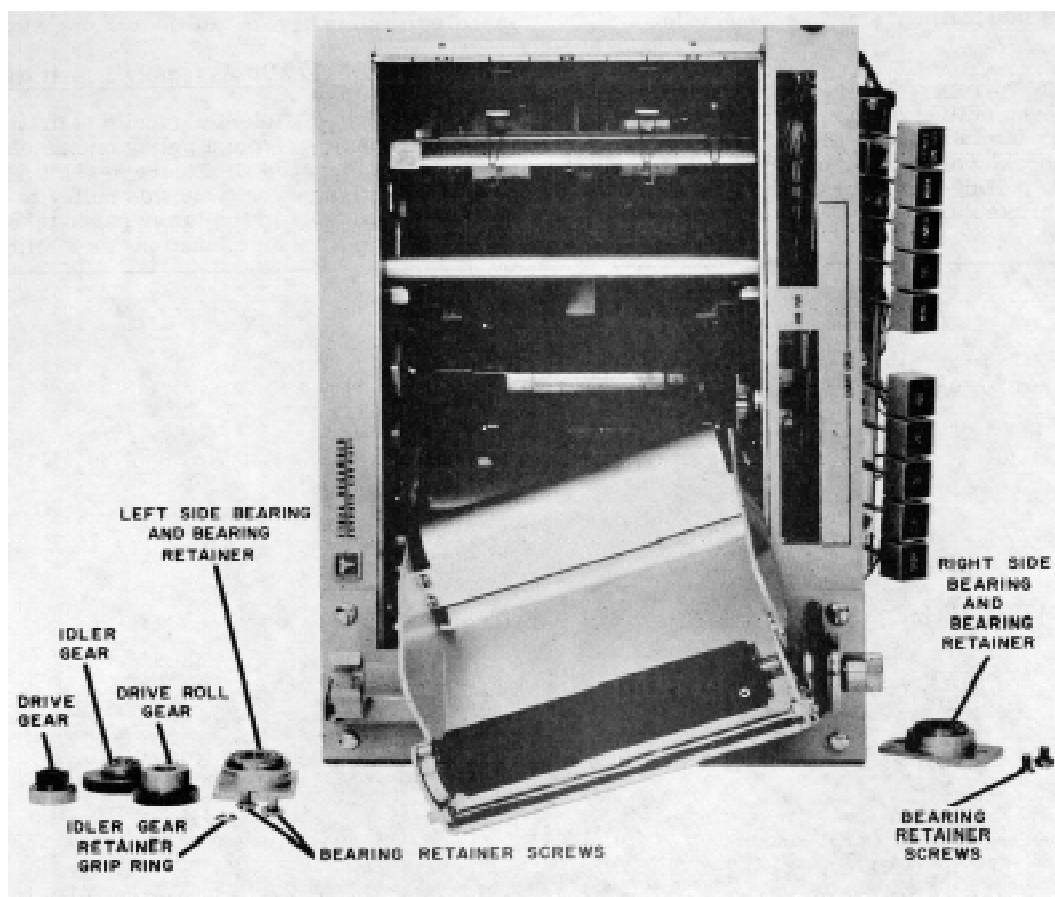

Figure 5-6. Paper Table Removal
d. Unscrew and remove the left side bearing and bearing retainer (see Figure 5-6).
f. Unscrew and remove the right side bearing and bearing retainer (see Figure 5-6).
g. Remove the paper table from the recorder by lifting the right side of the table upward and outward. (See Figure 5-6.)